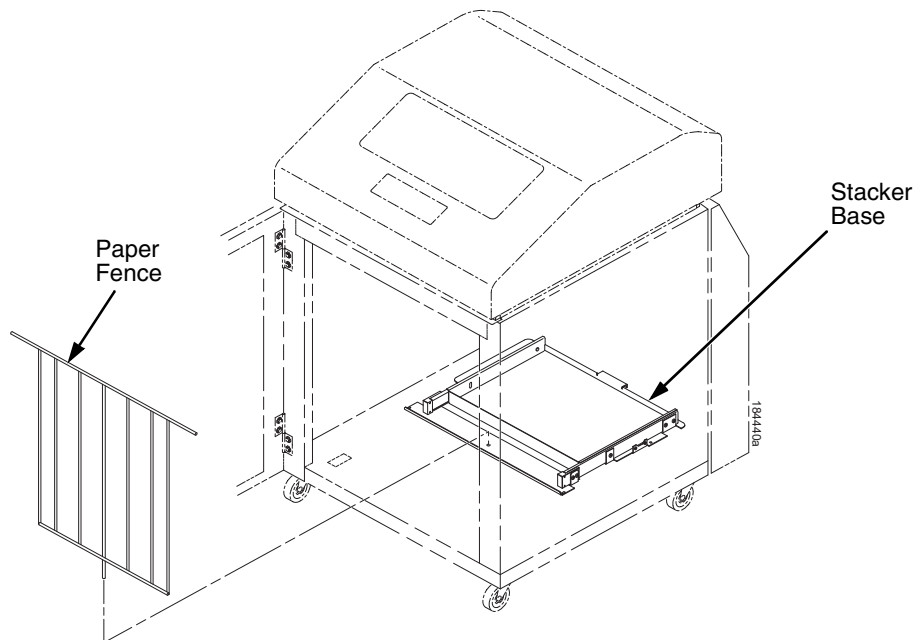

Figure 90. Paper Fence
33. Install the paper fence. (Figure 90.)